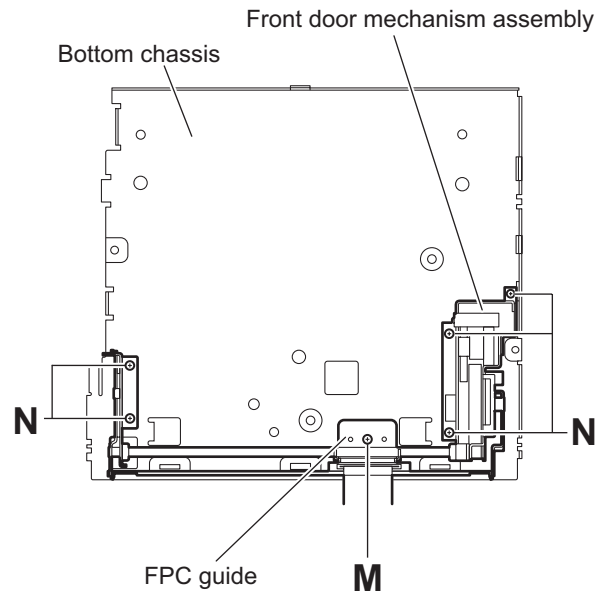

Fig.14
3.1.9 Removing the front door mechanism assembly (See Fig.14.)